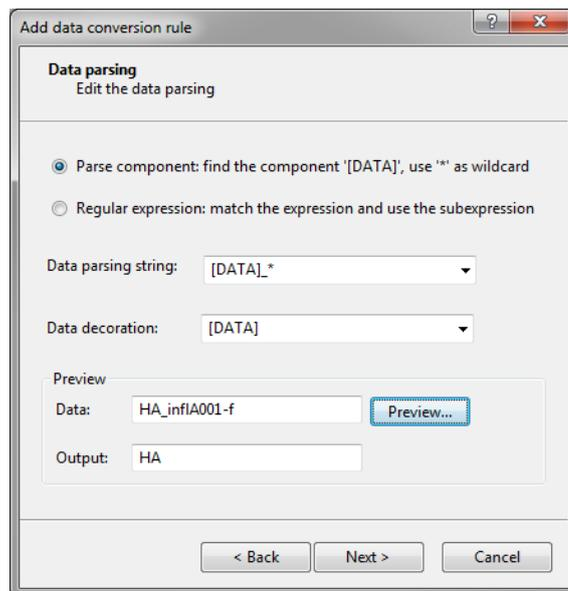

Figure 6: Parsing string.
13. Press the **<Preview>** button and press **<Next>** when the parsing is correct (see Figure 6) and **<Finish>**.